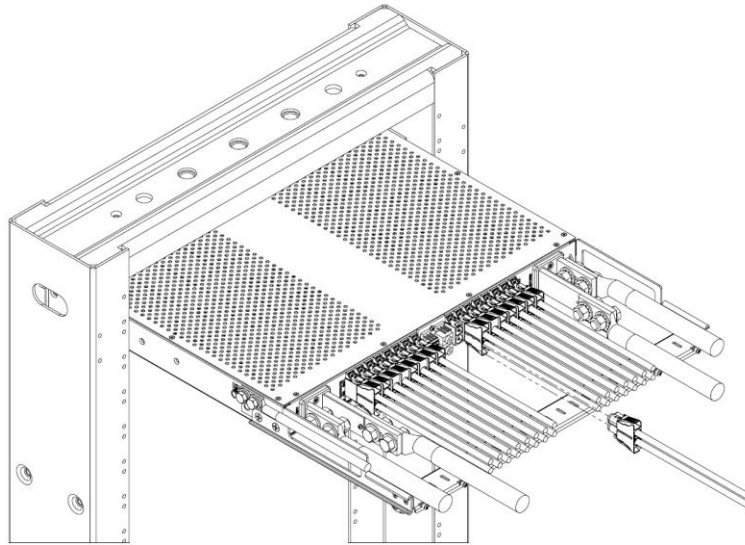
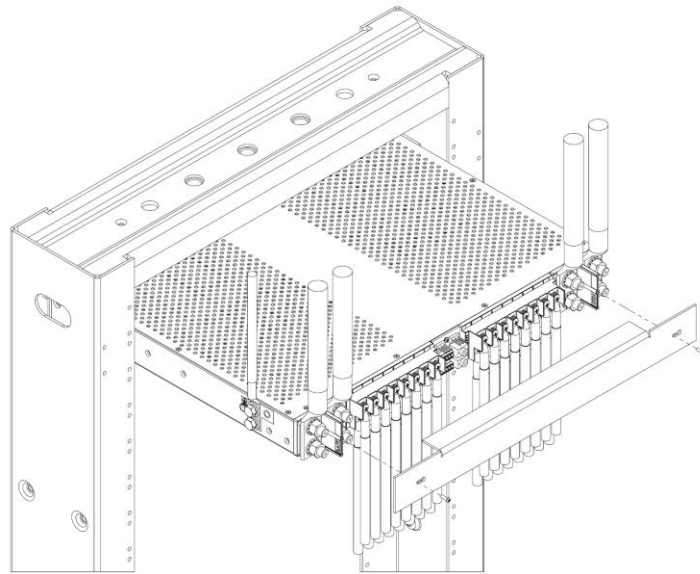
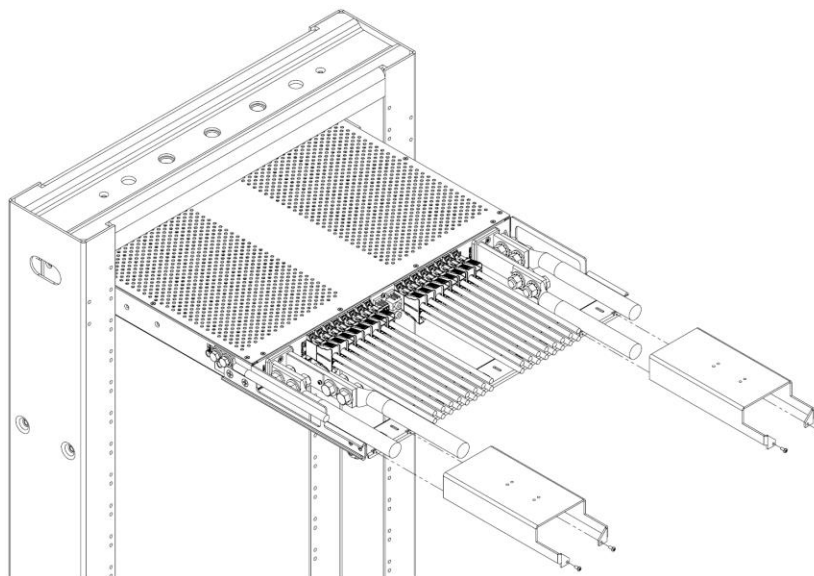

Fig. 2-19: Insert Connector
Fig. 2-20: Rear Cover (Standard Versions)
Fig. 2-21: Rear Cover (-C Versions)
58. Install rear plastic cover using provided hardware, as shown in Fig. 2-19, Fig. 2-20, and Fig. 2-21.